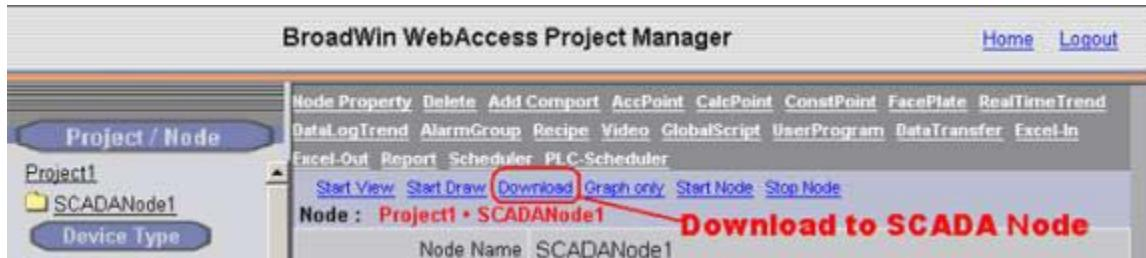

Figure 6-31 - SCADA Node Main page (Main.asp) - Download
1. Select the SCADA Node under your Project Name in the Project/Node list (Figure 6-31).